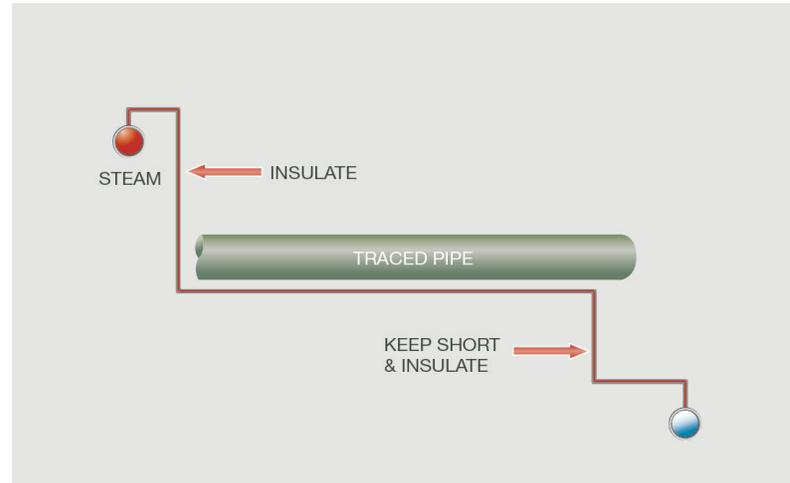

Figure 13: Steam Supply
1. The steam supply for the tracer system should be connected at the top of the main steam header to ensure there is no condensate entrained in the steam supply. See *Figure 13*.